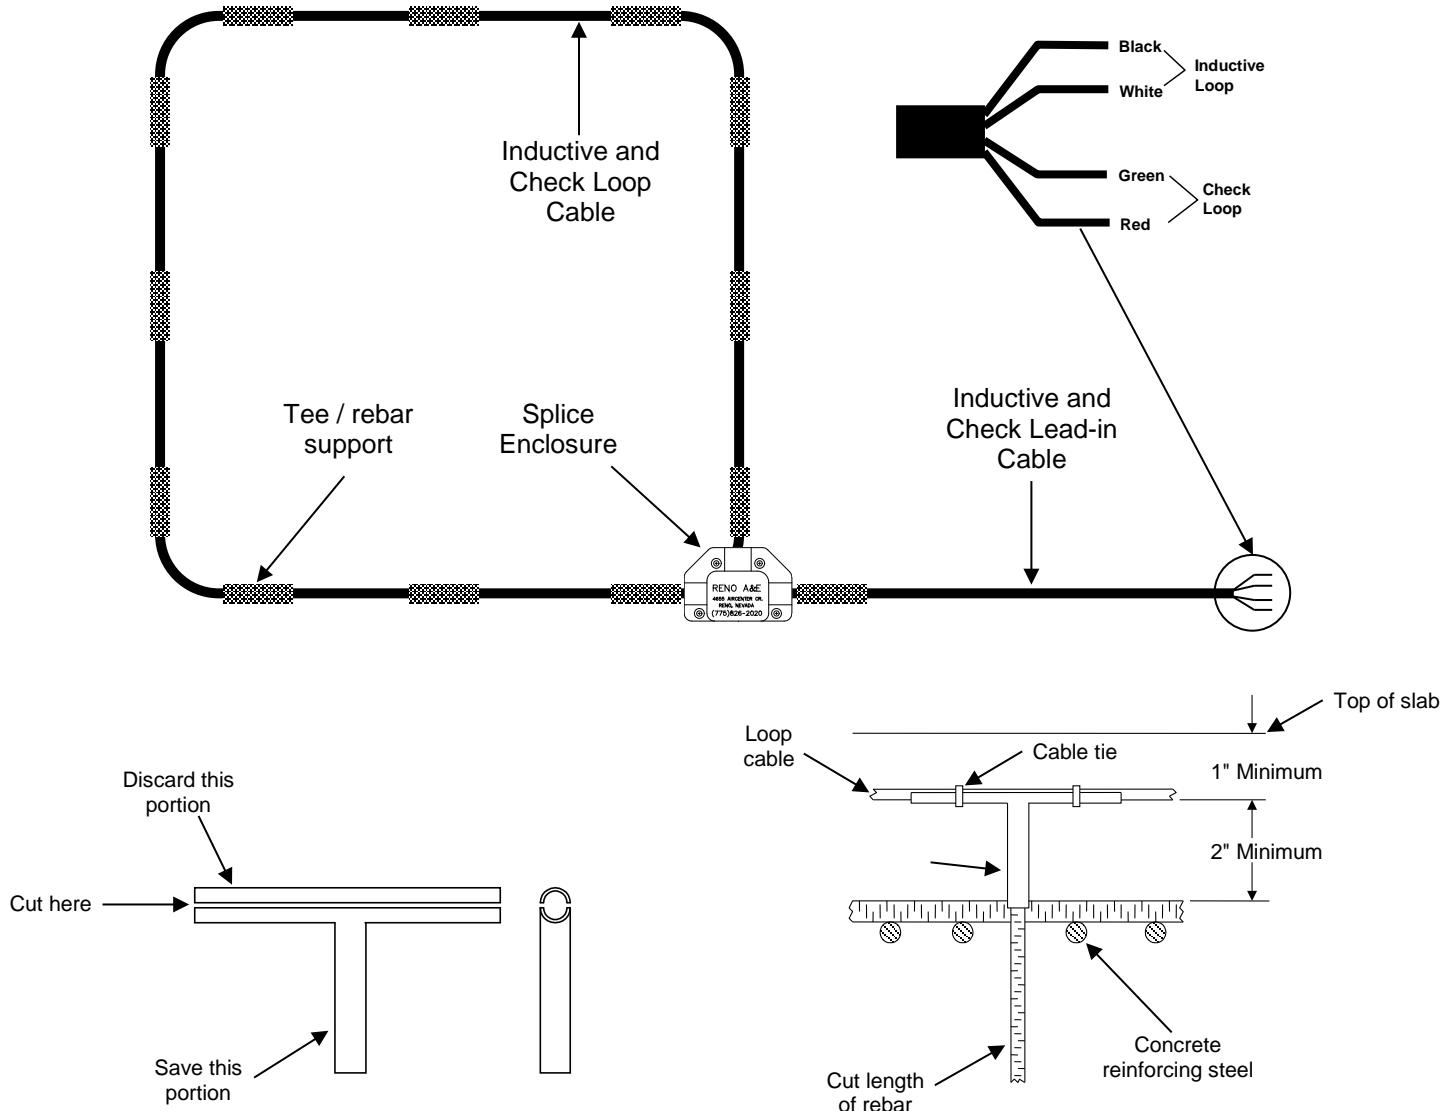

Figure 1
3. Cut an appropriate number of $\frac{1}{2}$ " poly insert tees as shown in Figure 1. Cut an equal number of lengths of $\frac{3}{8}$ " rebar.